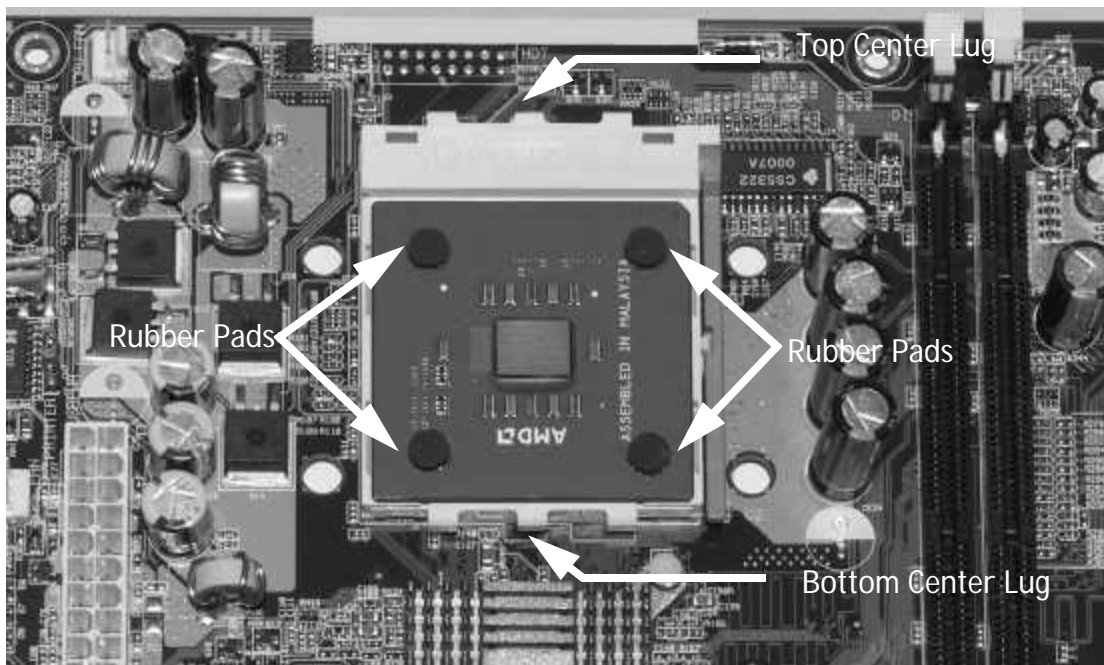

Figure 5. Processor Installed and the Lever Lowered
- Figure 5 shows the processor installed and the release lever lowered to lock the processor in place. With the processor now properly installed, the heatsink and fan assembly can be attached.